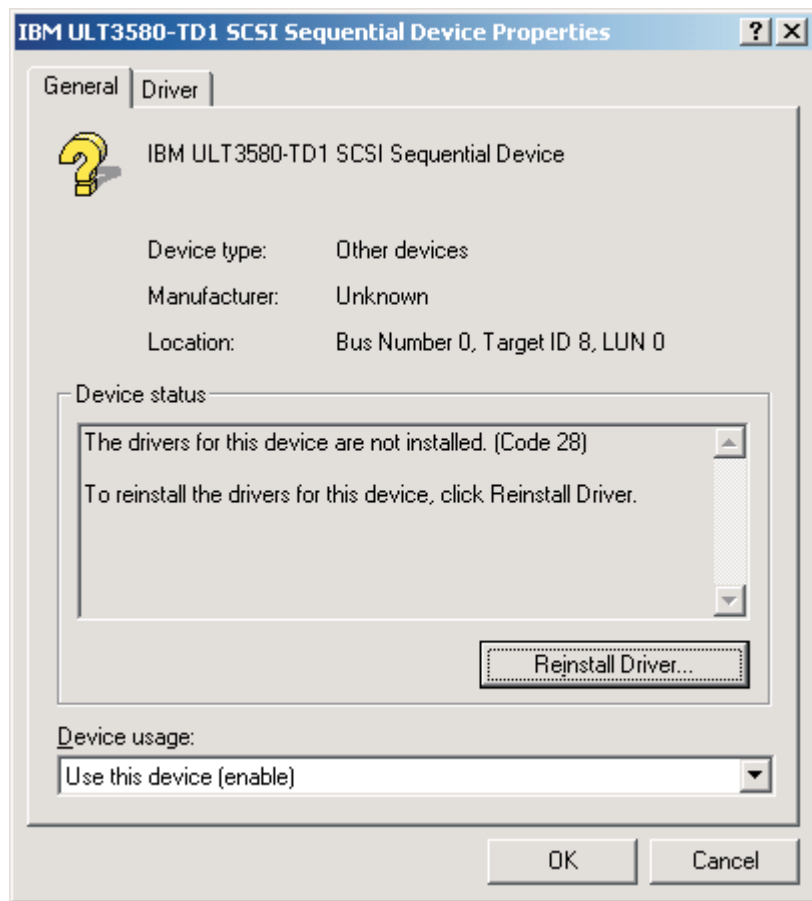

Figure 28. Device Driver Properties with Reinstall Driver ... Selected
2. Click the **Reinstall Driver** See Figure 28 on page 242. If there is no **Reinstall Driver ...** button on your screen, click on the **Driver** tab and then click **Update Driver**.